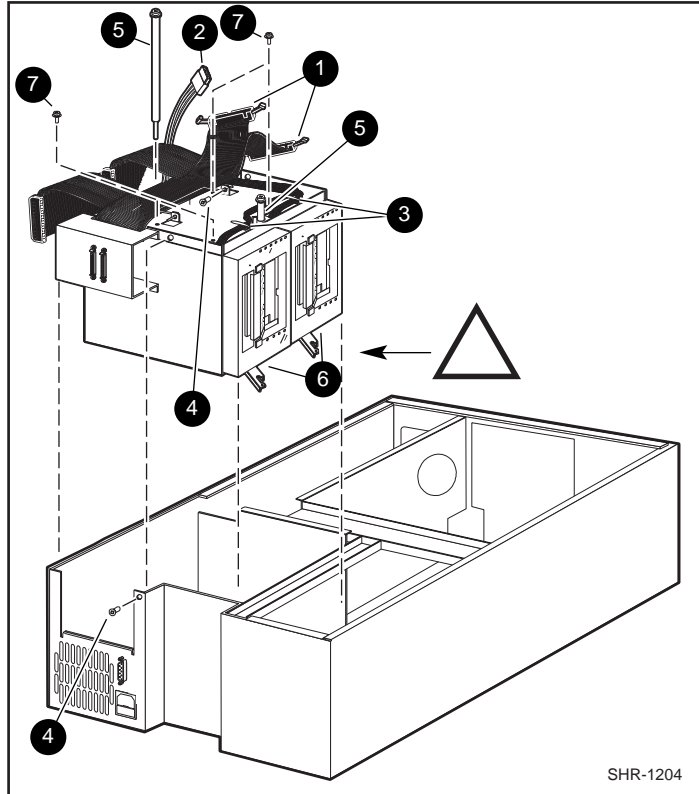

Figure 4. Drive Caddy Assembly Parts
2. Disconnect the SCSI cable connectors (1) ( Figure 4) from the controller SCSI extension cable.
1. Grasp the drive caddy assembly by the handle and lower it into position in the base module; orient it as shown in Figure 4.
2. Replace the two M4 extension screws (5) at the top of the assembly
3. Coat the threads of the two M4 x 8mm flat-head Phillips screws (4) with Loctite 222, and replace them on the upper edge of the drive caddy assembly.
4. Connect the drive 1 and drive 2 RS-422 cables (3) to the controller PWB.
5. Connect the drive power cable (2) to the power supply connector.
6. Connect the SCSI cable connectors (1) to the controller SCSI extension cable.
1. Remove the four 6-32 sems pan-head Phillips screws (7) that hold the blank panel in place in the drive caddy assembly; there are two on the top of the assembly (Figure 4) and two on the bottom of the assembly.